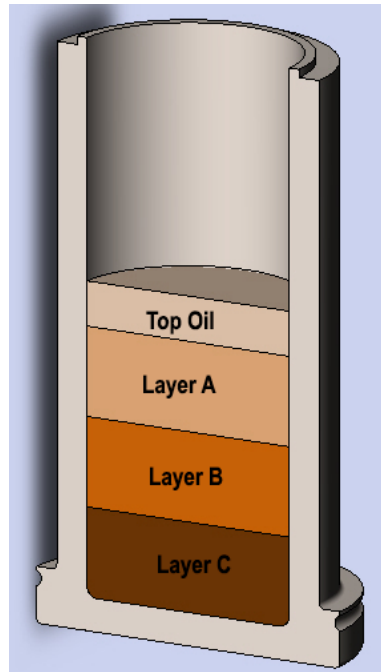

Figure 4-1 Aged Fluid showing layers
8. Use a syringe to carefully remove any top oil from the sample in the aging cell. See Figure 4-1. Measure this top oil in a graduated cylinder and record the volume.